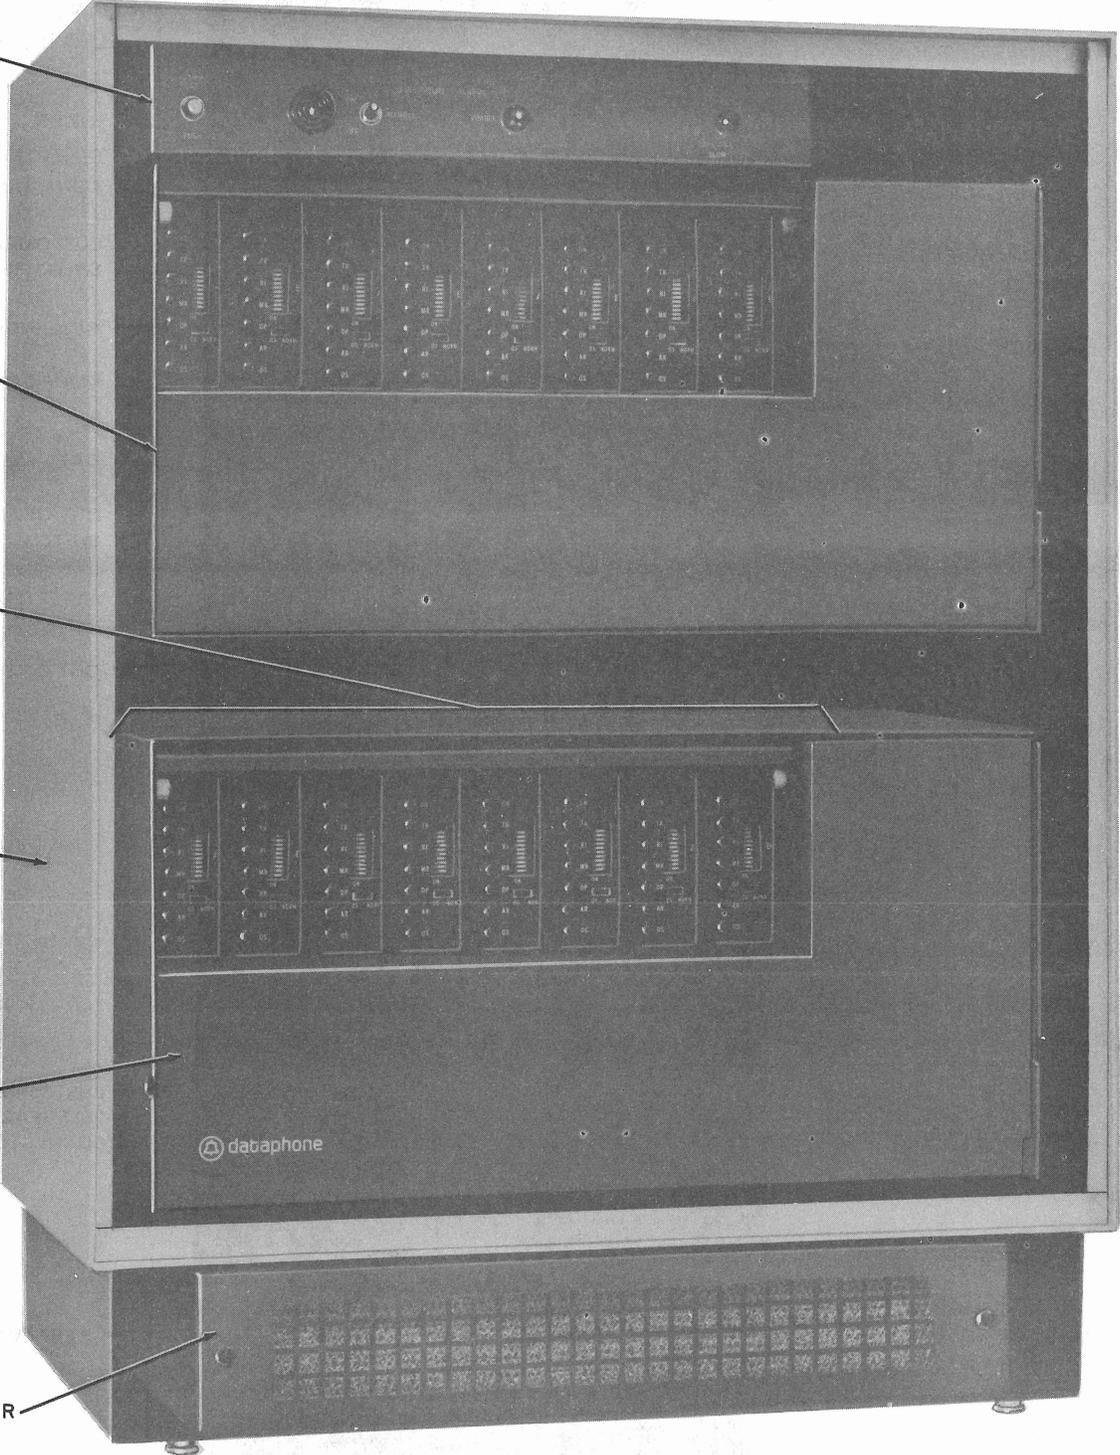

Fig. 1—Front View of 407CR Multiple Data Station With Plastic Front Cover Removed
1.04 A 407CR multiple data station, shown in Fig. 1, consists of the following units:
1.08 The 51A-type data unit, together with the 47A-type data unit, (Fig. 1) provided with the 57A2 data mounting, enable local or remote testing of any DS 407CR in the cabinet.